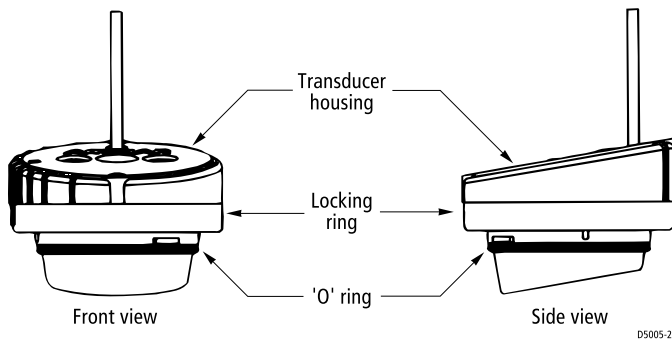

Figure 2-17: Installing the O-ring
8. Lubricate the O-ring with silicone grease or petroleum jelly. Slide the O-ring onto the transducer assembly (see *Figure 2-17*).